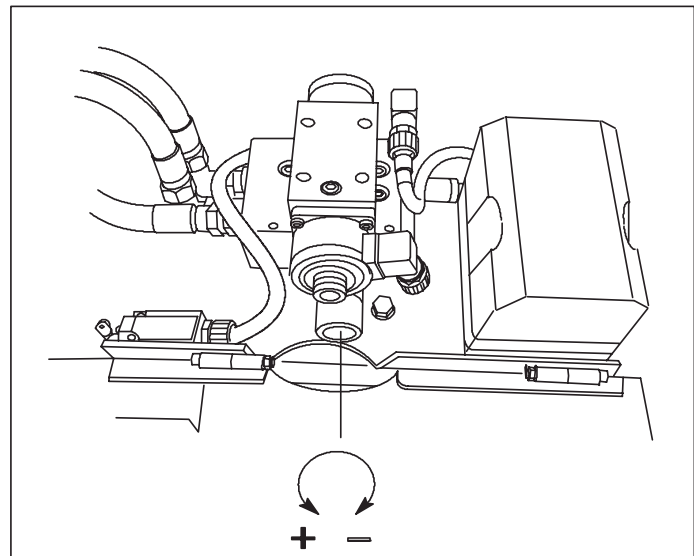

Fig. 14. Adjusting the feed roller speed
- The feed roller speed is increased or decreased by turning the knob counter-clockwise or clockwise, respectively. See Fig. 14.